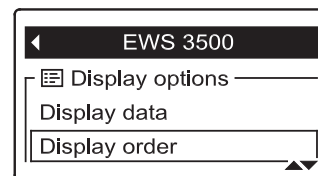

FIG. 66
3. Press the DOWN (▼) button to scroll through the menu options until **Display order** is highlighted in a box (See Figure 66).
9. To move another item, return to Step 5. When finished moving items, press the LEFT (◀) button. The display will go back to the device menu (Figure 66).